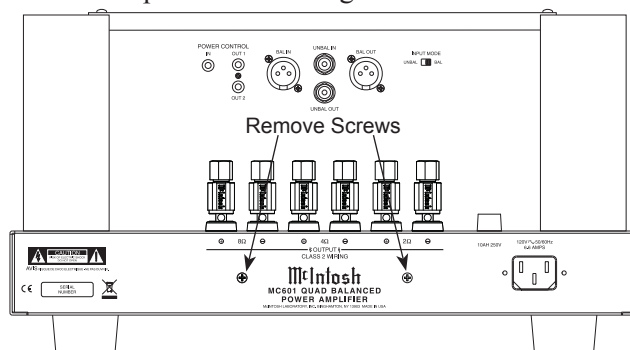

Figure 1
3. Using a suitable tool remove the two screws from the MC601 Rear Panel and temporarily place them in a safe place. Refer to figure 1.